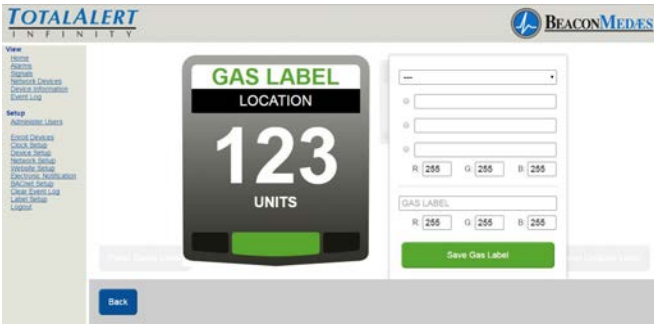

Figure 295
16. From home screen, Click on the area badge to setup non-latin language parameters. (See Figure 295)